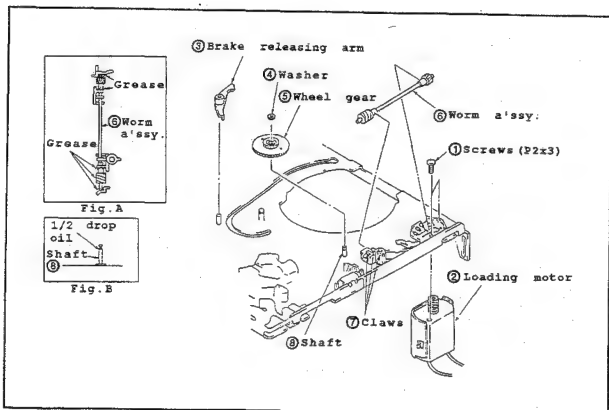

Fig.II-26
• Disassembling (Fig.II-26)
- (1) In the same procedures in "3-3" and "3-13", dismount the capstan motor and the switch lever.
- (2) In the same procedures in "3-14", detach the loading lever.
- (3) In the same procedures in "3-17" and "3-18", detach the drive gears (Right) and (Left).
- (4) To dismount the loading motor (2), remove the two screws (1).
- (5) Take off the brake releasing arm (3).
- (6) To take off the wheel gear (5), remove the washer (4).
- (7) Unhook the six claws (7) of worm a'ssy..
• Reassembling (Fig.II-26)
- (1) Install the worm a'ssy (6) while hooking the six claws (7).
- (2) Apply the grease to the five shadow areas of worm a'ssy indicated in the Fig.A.
- (3) Apply the 1/2 drop of oil to the shaft (8). (Fig.B)
- (4) Insert the wheel gear (5) into the shaft (8), and mesh it with the worm a'ssy's gear.
- (5) Assemble the brake releasing arm (3).
- (6) Apply the grease onto the entire surface of loading motor gear part.
- (7) Align the loading motor (2) with the chassis. Then, secure them with the two screws (1).
- (8) In the same procedures in "3-18" and "3-17", install the drive gears (Left) and (Right).
- (9) In the same procedures in "3-14", install the loading lever.
- (10) In the same procedures in "3-13" and "3-3", install the switch lever and the capstan motor.